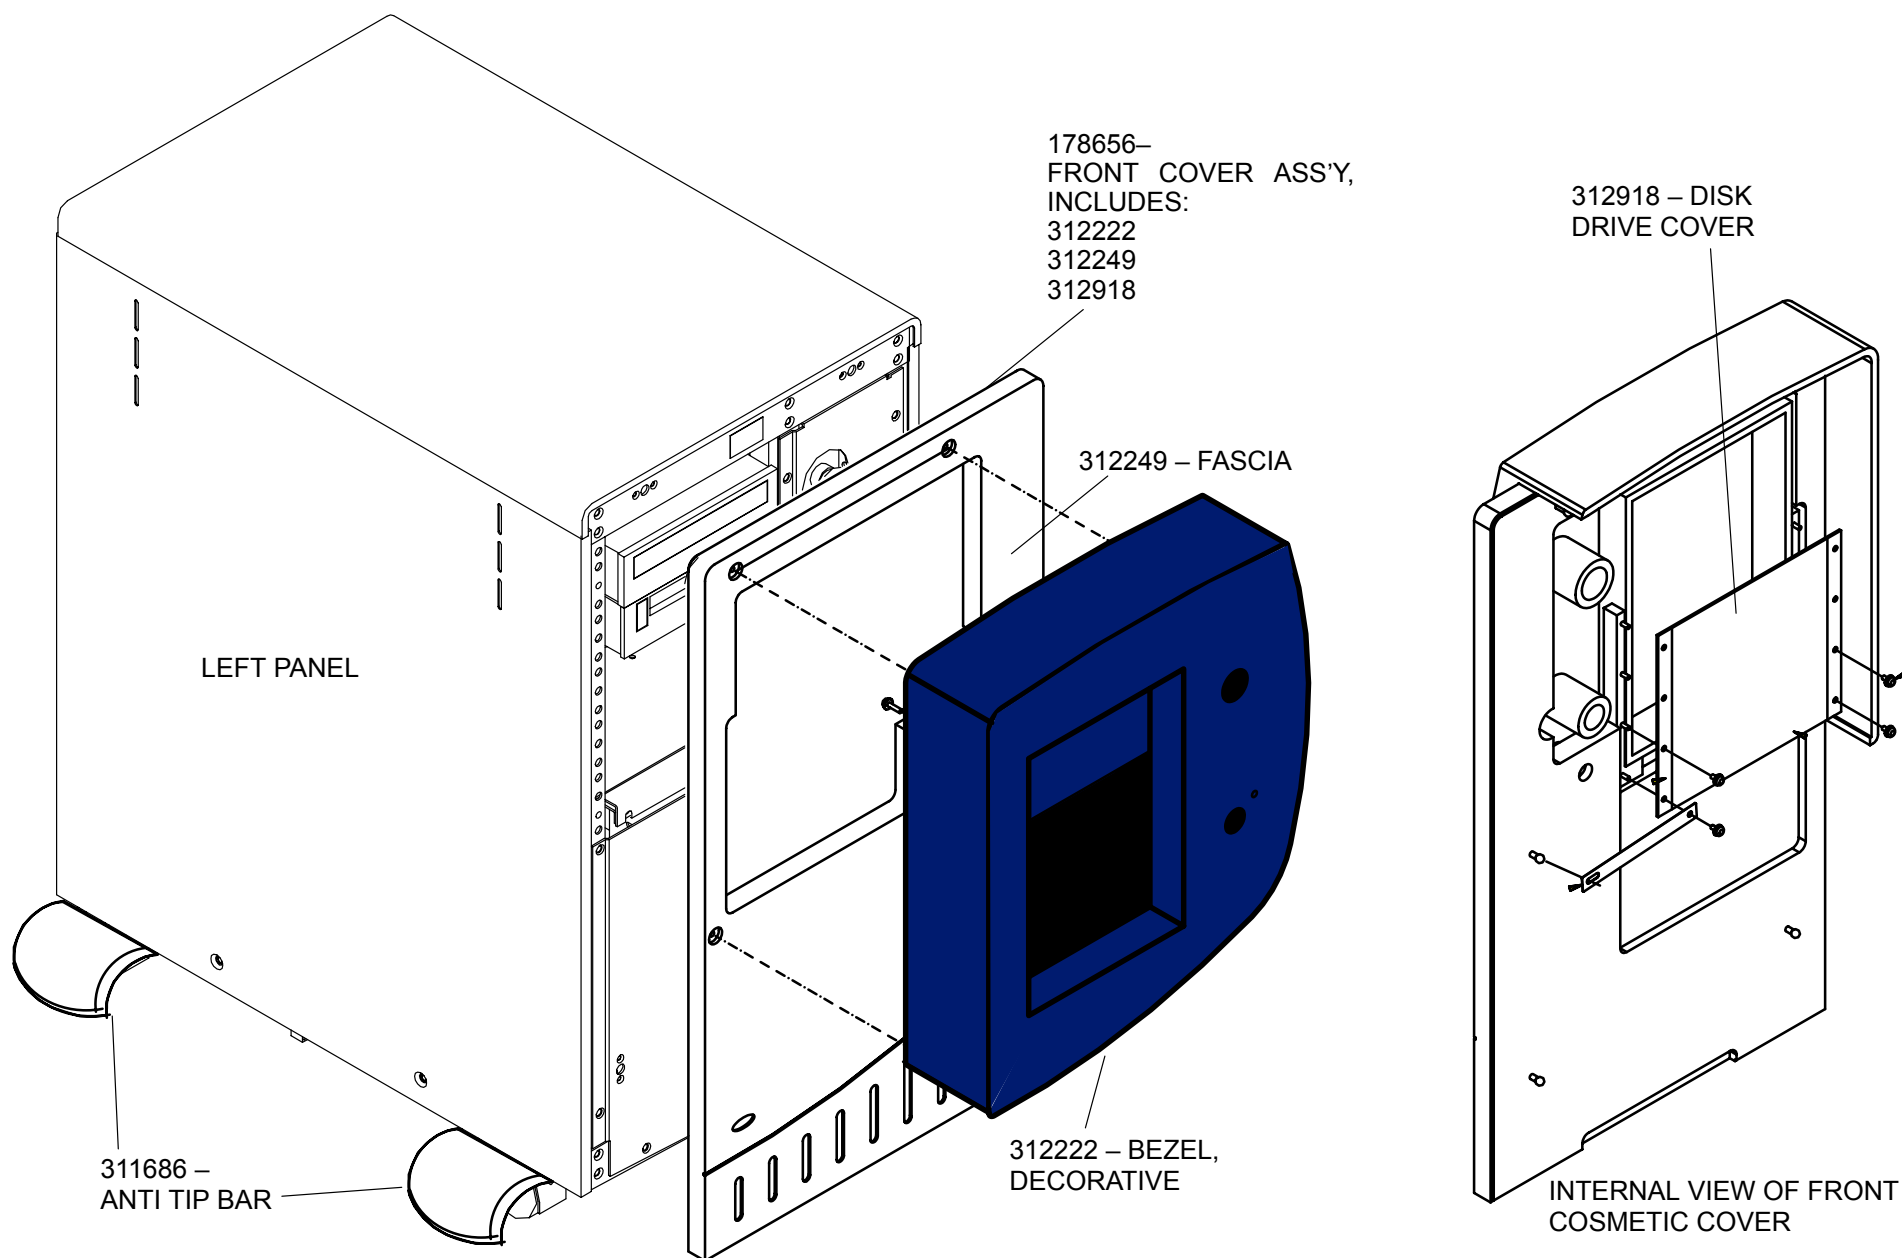

FIGURE 341 COSMETIC COVER REMOVAL
1. Refer to Figure 341. The decorative front cover is held on with ball stud and spring clips. Remove the key(s) first. Grasp the hand hold in the center bottom and pull outward then pull on the sides to remove the entire front decorative cover.